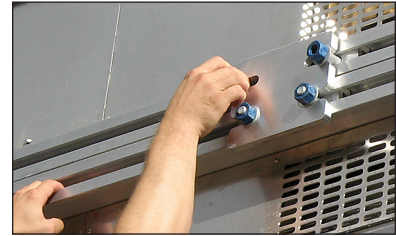

Figure 13: Attaching Splice Plate
- Starting at one end of the display, place the flat splice plates over the bolts and place a nut and washer on each bolt. Refer to **Figure 13**.